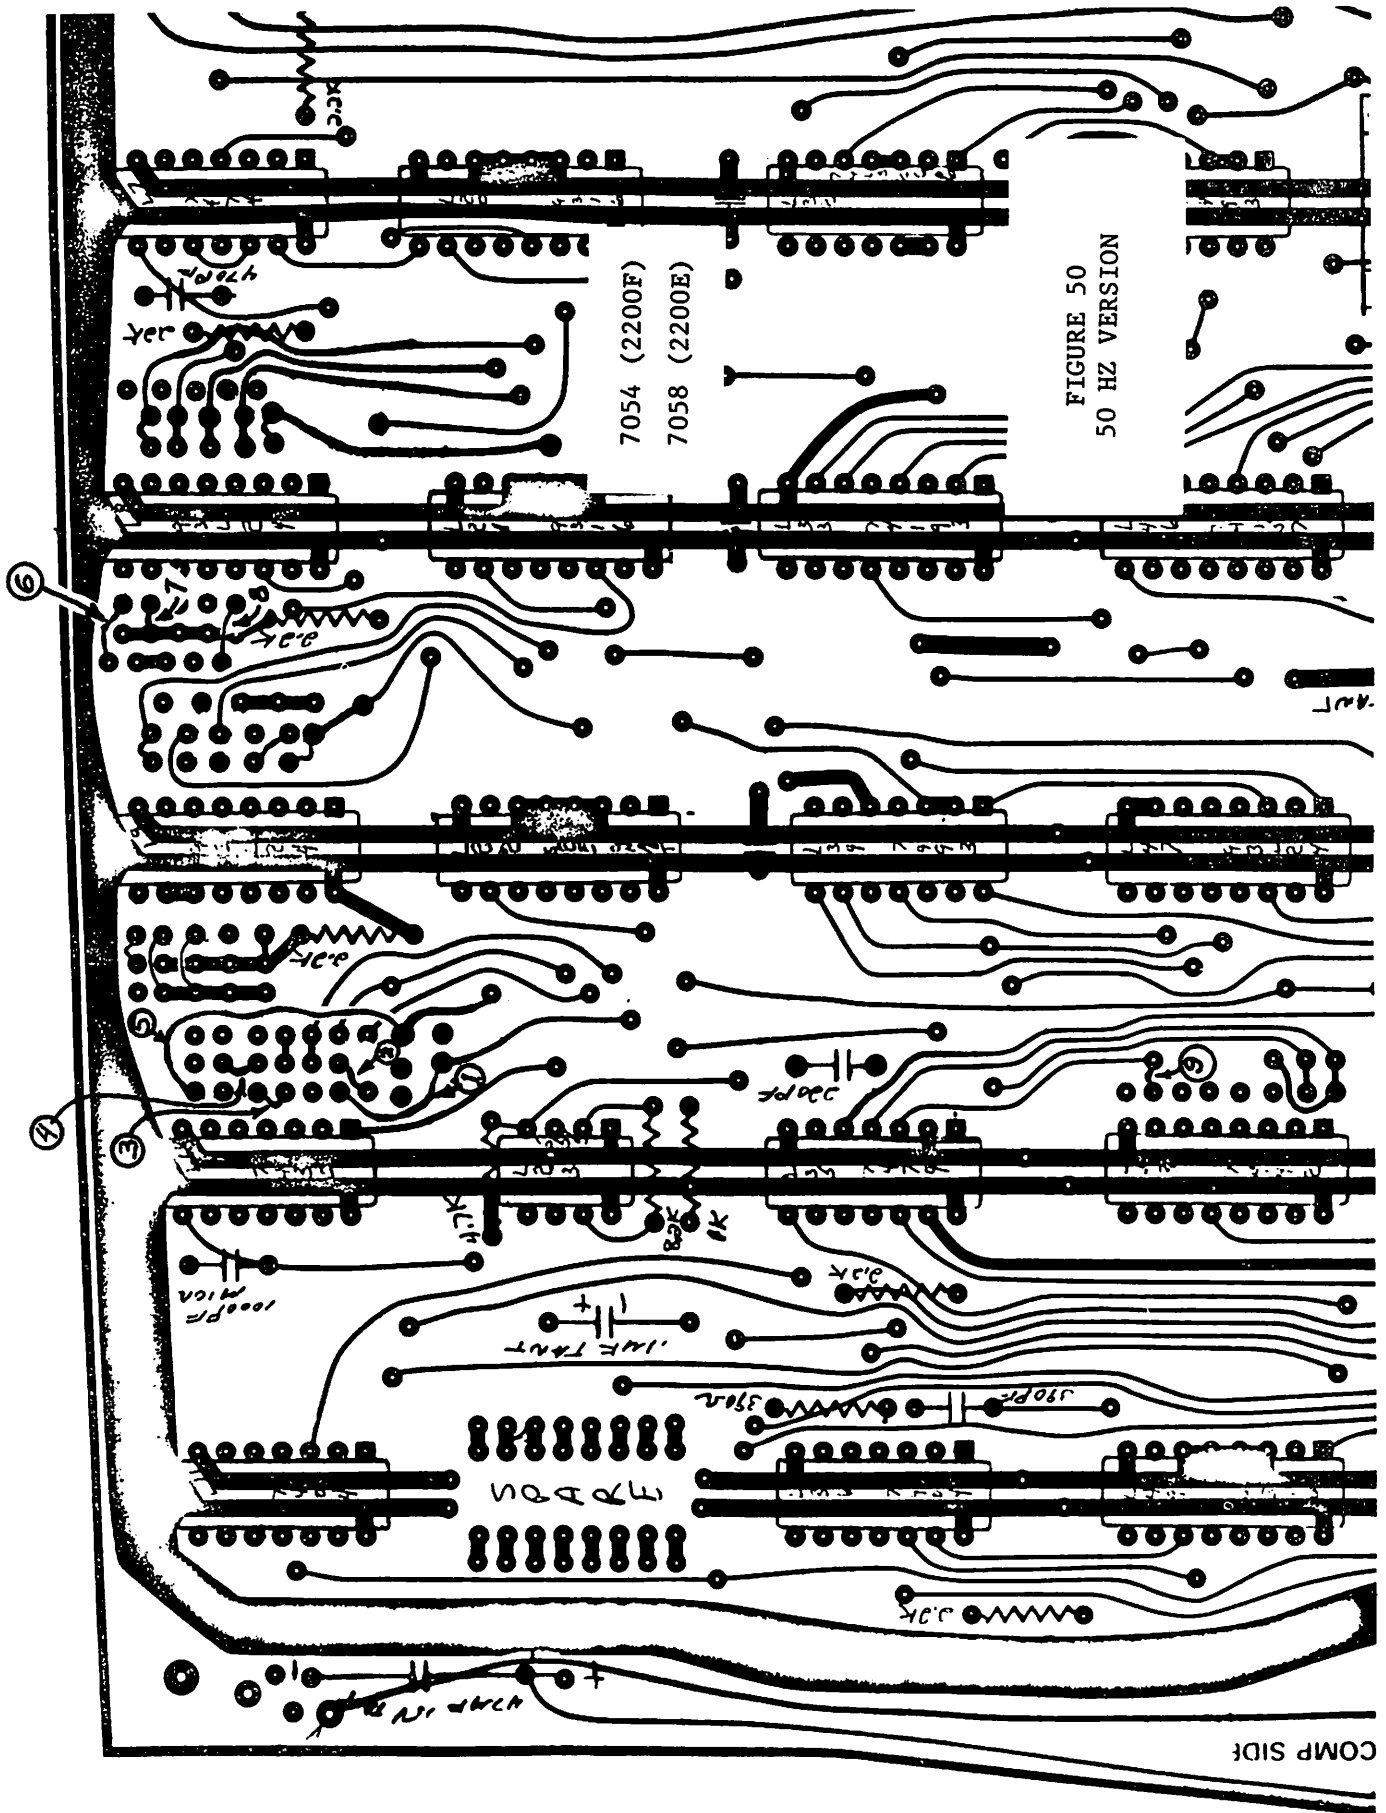

FIGURE 50
- b) To allow versatility with the I/O controllers, jumpers are used for 50 Hz and 60 Hz operation. The charts and diagrams follow that show jumper placement for 50/60 Hz variations. Only the jumpers that require changing are listed. (Jumpers to L9 always remain in the same locations.) Refer to Figures 50 and 51.